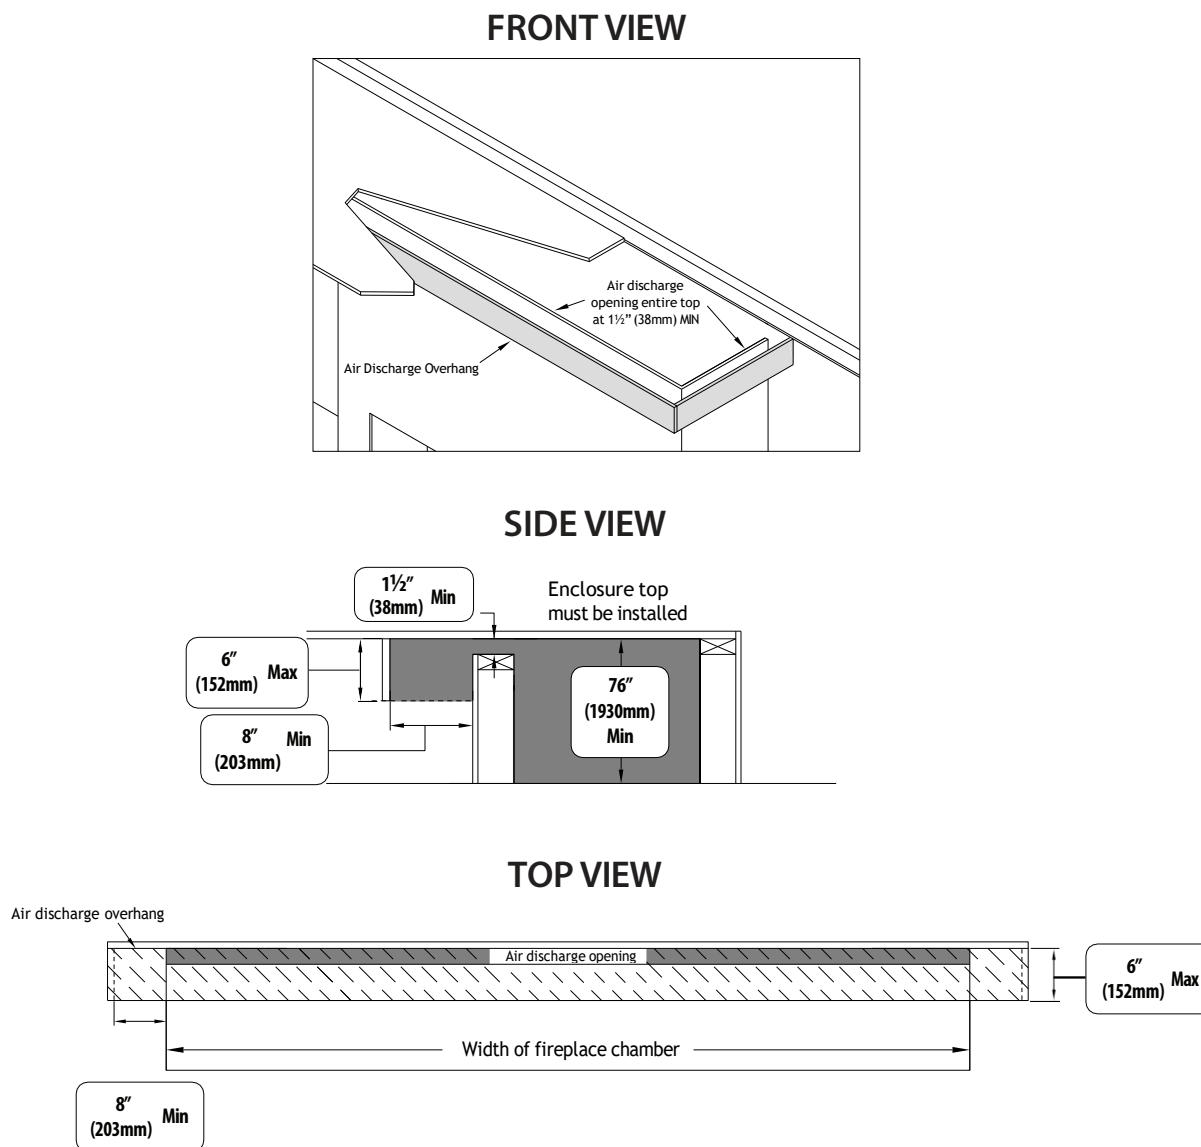

FIGURE 3.21 Top Vented Cavity Alternative Installation with Overhang
- FIGURE 3.21 shows an alternative installation for the top vented cavity option with an air discharge overhang in front of the air discharge opening. This installation method can provide a means to visually hide the air discharge opening.